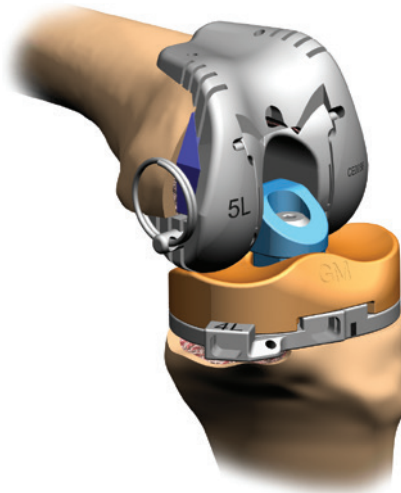

Figure 78
6. Pin using anterior oblique hole and mark the rotation on the tibia utilizing the anterior mark on the Tibial Trial Tray (Figure 78, 79a). Remove the Trial Post Bolt with the 4.75mm Hex Driver, Trial Link, Trial Axle and Articular Insert Trial.